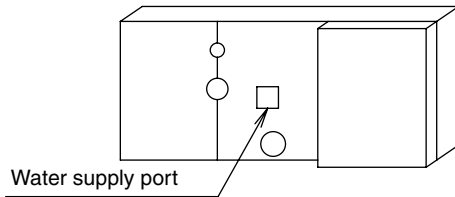

Fig. 13
- (2) After piping work is finished, check drainage flow smoothly.
- Open the water supply port, add approximately 61in³. of water slowly into the drain pan and check drainage flow. (Refer to Fig. 13)